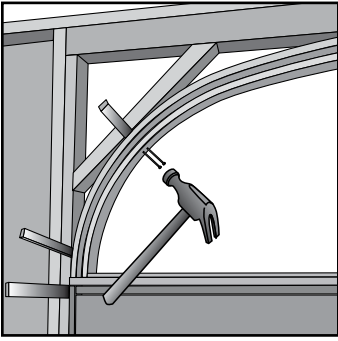

Fig. 38
- G. To secure the jamb to the studs at every shim, drive two 3" finish nails through the face of the jamb into the stud (**Fig. 38**).